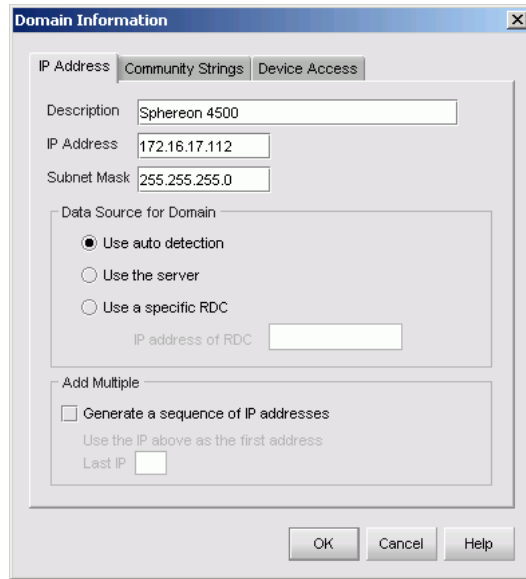

Figure D-13 Domain Information Dialog Box (IP Address Page)
- b. Click *Add*. The *Domain Information* dialog box displays with the *IP Address* page open by default (Figure D-13 on page D-11).